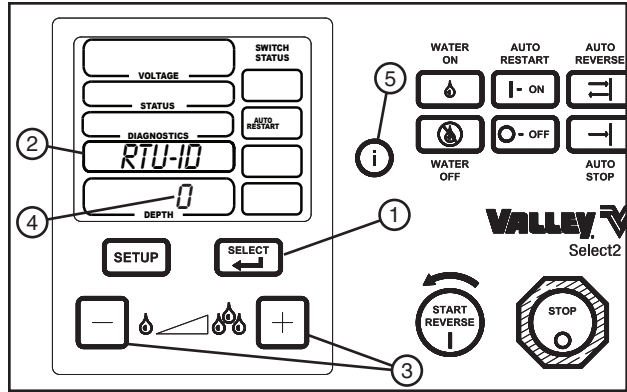

Figure 24-3
- Press the SELECT button 3 times to access the RTU ID setup, RTU ID should be blinking in the information display screen. See figure 24-3.
- Use the application depth buttons to set the control module RTU ID value to 0. See figure 24-3.
- Press the information button to save the changes and return to normal operating mode. See figure 24-3.